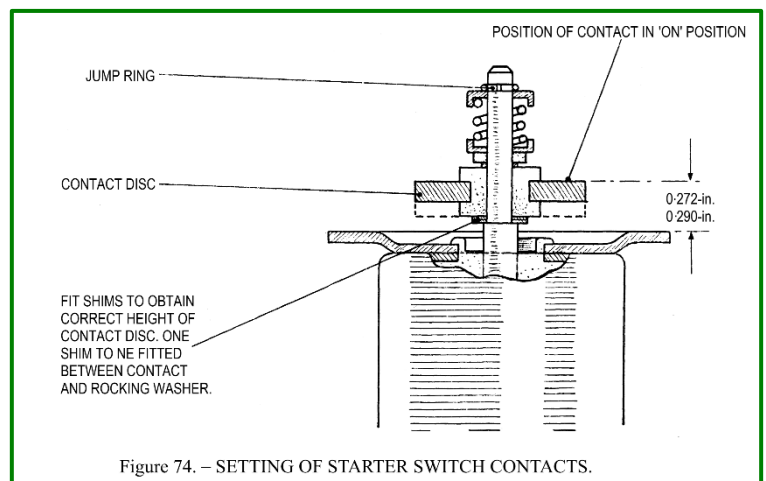

Figure 74. – SETTING OF STARTER SWITCH CONTACTS.
The contacts must be replaced as a complete set, comprising two fixed contact plates for fitting in the commutator end bracket and the moving contact disc for mounting on the switch plunger. The new components must be accurately fitted to the dimensional limits that are shown in *Figure 74*.
To remove the original contact disc from the starter switch withdraw the jump ring (G) from the end of the spindle. The correct position of the contact disc relative to the switch fixing plate, as shown in *Figure 74*, must be obtained by fitting shims behind the disc. Replace the spring (H) with its end caps (J) on the spindle and secure by means of the jump ring. Finally, fit the switch to the starter end bracket and reconnect the cable to the switch.